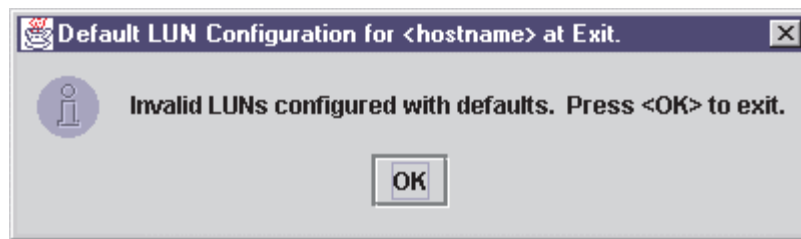

Figure 102. Invalid LUNs Configured with Defaults Error dialog window
- Click **Yes** if you want the software to configure the invalid LUNs with the default paths. The confirmation message shown in Figure 102 displays. Click **OK**.